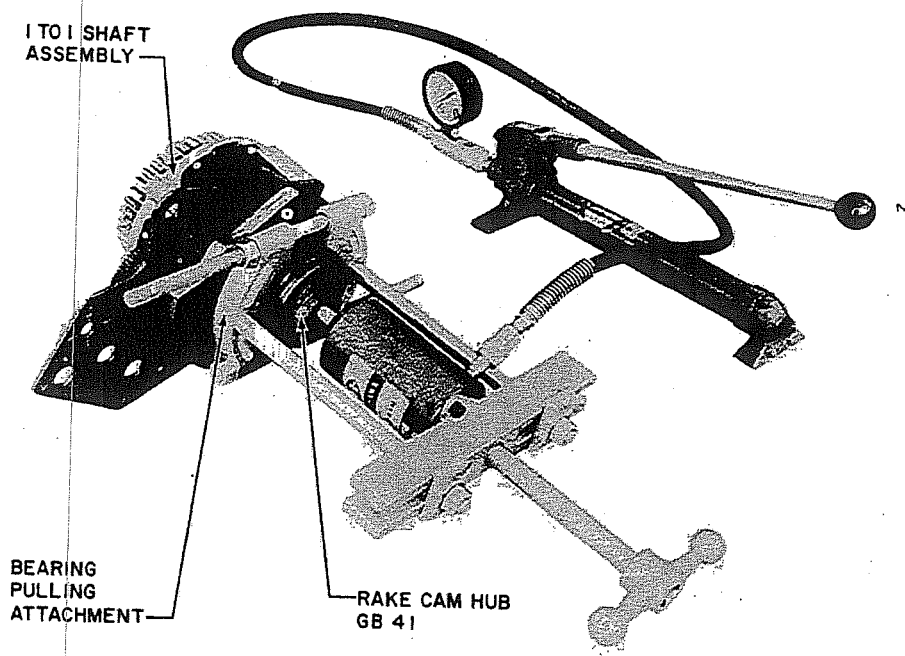

Figure 25. 1 to 1 Shaft, Removal of Rake Cam Hub GB41
- A. Secure the bearing pulling attachment behind the flange of Rake Cam Hub GB41 (page 5 of Parts Catalog). The rake cam hub will be withdrawn by applying pressure to the 1 to 1 Shaft (figure 25).